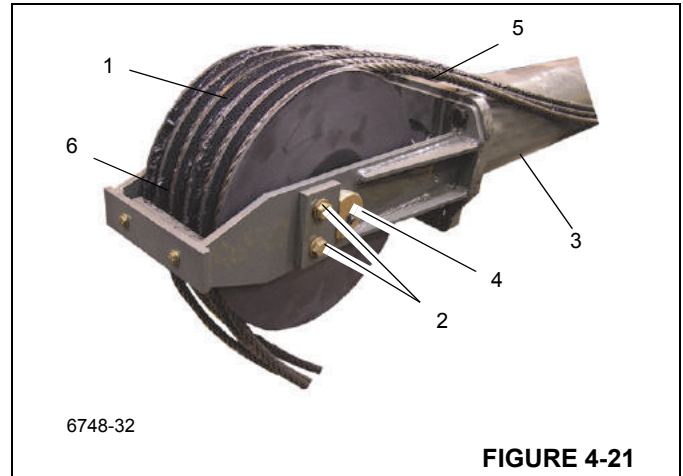

FIGURE 4-21
- b. Install grease fitting (4) (Figure 4-21) in shaft.
4. Route the five extension cables (5) (Figure 4-21) up and around the extend cable sheave assembly about one foot on to cylinder. To aid in assembly, secure the cables to the top end of the cylinder by wrapping tape around the cylinder.
5. Position the cable retainer (6) (Figure 4-21) over the sheave shaft and secure it to the sheave mounting assembly with four capscrews and washers. The retainer secures the sheave shaft.